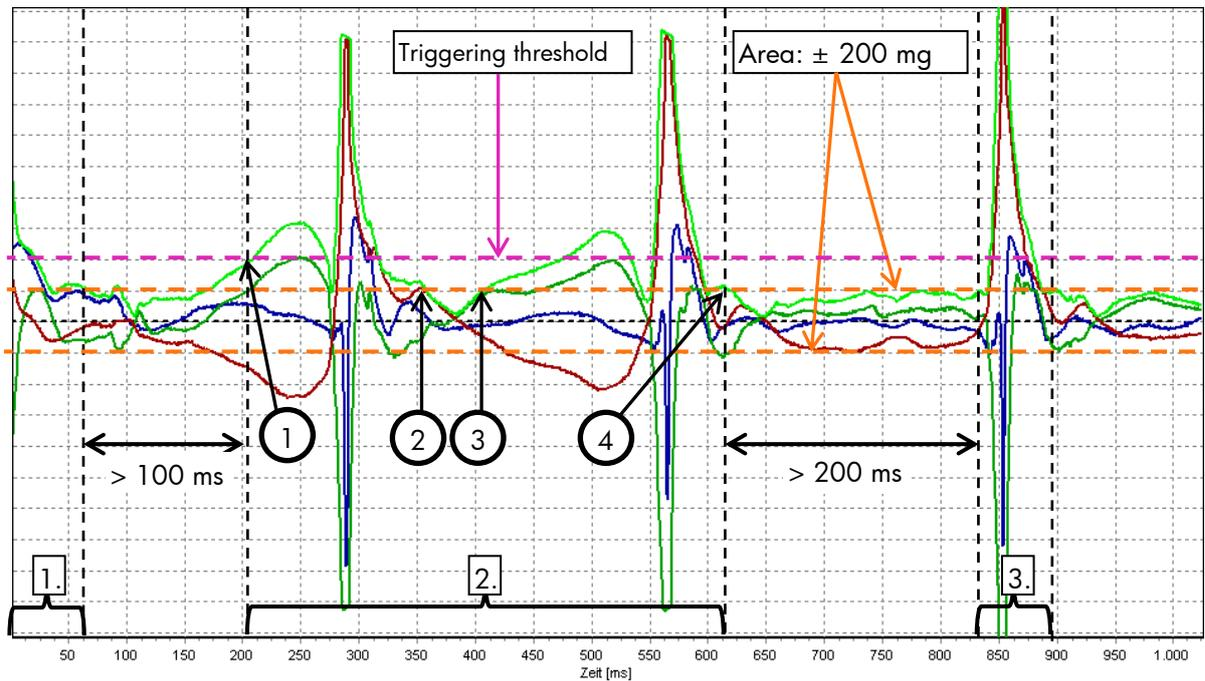

Figure 24: Shock curve with 3 single pulses
The following should be explained on the basis of Figure 24. The 1st pulse begins with the start of the recording and fades away again very quickly here. The following 2nd pulse begins with the repeated exceeding of the triggering threshold (1). At point (2), all channels fall below the 200mg limit, however, not longer than 100 ms (3). At point (4), the fading condition is finally fulfilled and the 2nd pulse is completed. More than 200 milliseconds after that, the 3rd pulse is